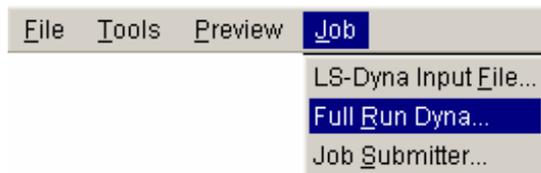

Figure 6.12 Job Submitter menu
1. Select **Job**→**Full Run Dyna...** in the menu bar. See Figure 6.12.